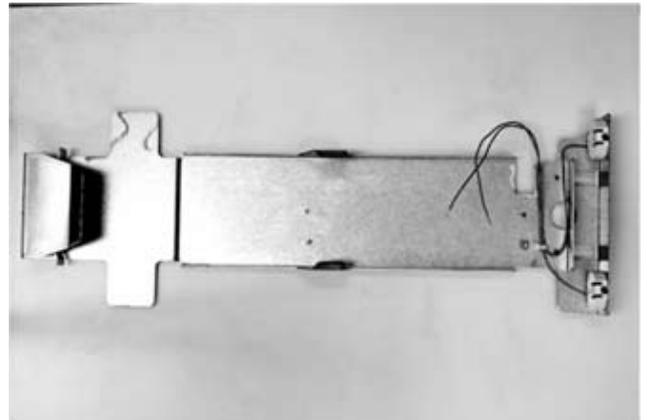

Figure 58.
- P. Now locate the bracket without the ballast attached, Figure 58.